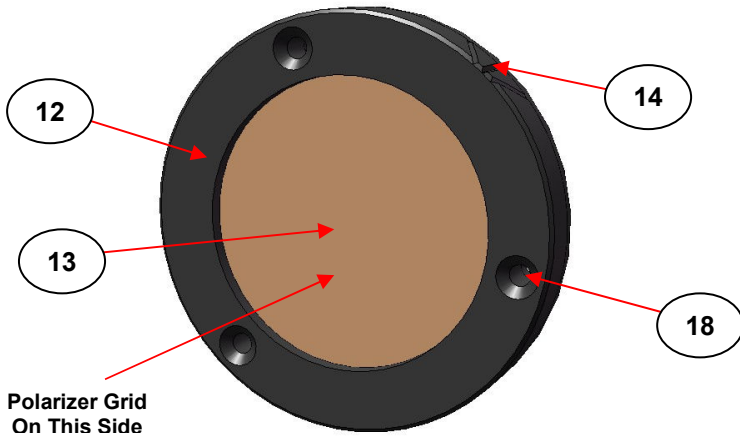

Fig 8. Polarizer Grid Surface Side of GS57010 Series Polarizers
The polarizer grid is deposited onto one surface of the substrate (13) material. On the circumference edge of the anodized aluminium ring mount (12) there is a 'V' notch mark (14) and the direction point of the 'V' denotes which side of the substrate (13) the polarizing grid has been deposited. (See Fig 8.) In addition, the surface of the ring mount that carries the labeling of the polarizer for the substrate material type and whether it is a Standard, HER or IQ polarizer, is on the same side of the substrate (13) as the polarized grid.
The circular plate (16) with the circumference ring “boss” (4) on the front face is removed by pulling out away from the rotating ring (6) housing. On the rear face of this circular plate (16) are a further three slot head screws (17) that are used to secure the GS57010 Series polarizer into place on this circular plate through the three fixing holes (18) of the polarizer ring mount (12). (See Figs 8, 9 and 11.)